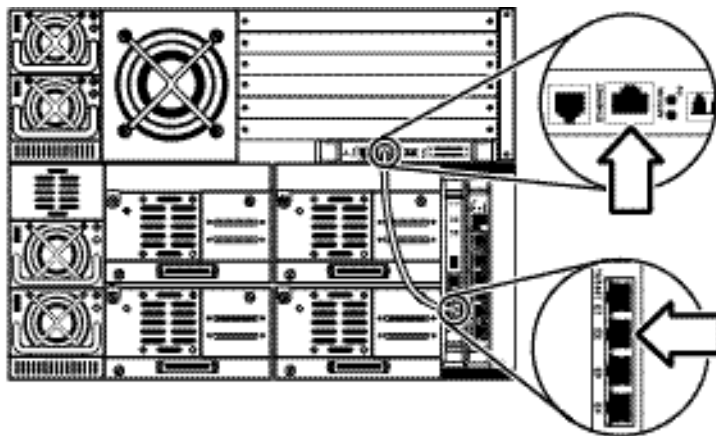

Figure 32: Connecting the Ethernet cable to the robotics controller card (e1200-160)
- a. Connect the 3 ft (91 cm) green Ethernet cable from Ethernet port “E2” on the cluster controller in drive cluster 1 to the Ethernet port on the robotics controller card (e1200-160) located in the bottom slot of the card cage at the top of the library cabinet (see Figure 32).